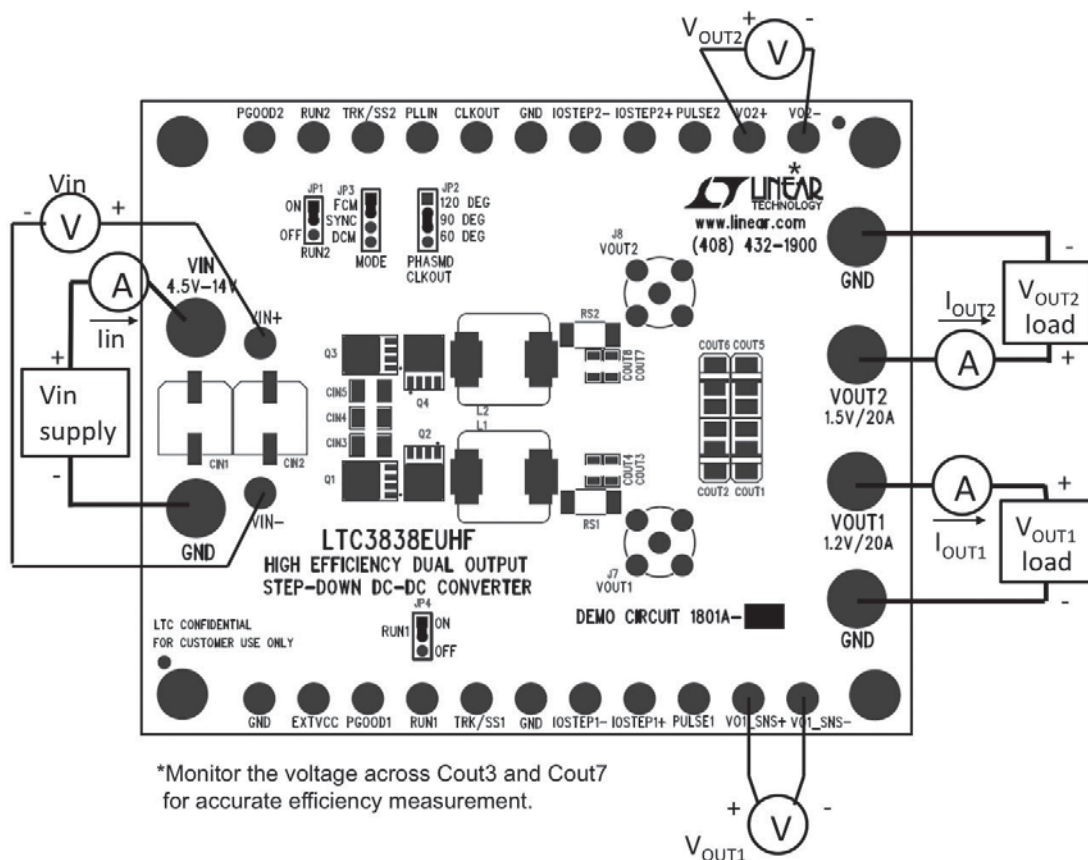

Figure 1. Proper Measurement Equipment Setup
Demonstration circuit 1801A is easy to set up to evaluate the performance of the LTC3838EUHF. Please refer to Figure 1 for proper measurement equipment setup and follow the procedure below.
1) With power off, connect the input supply, load and meters as shown in Figure 1. Preset the load to 0A and V_{IN} supply to be 0V. Place jumpers in the following positions: